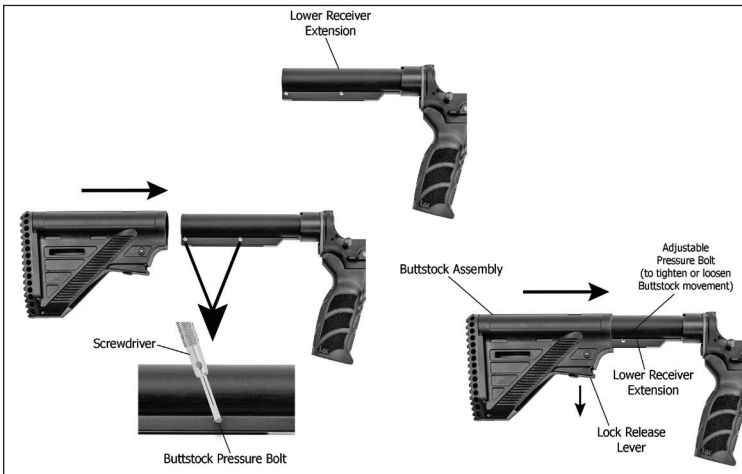

Fig. 28 – Buttstock reassembly
- a. Two small set screws are located on the bottom of the receiver extension (buffer tube). These set screws are provided to eliminate any play that may develop between the buttstock and the extension. The left-hand side of the set screw features a detent surface that engages the buttstock. The right-hand surface features a cut to accommodate a small straight slot screwdriver. Rotating the set screws clockwise will tighten the detents to the buttstock; rotating the setscrew counterclockwise will loosen the buttstock. Using a flat head screwdriver, rotate the set screws clockwise using quarter turns and adjust until the detents engage the buttstock but do not hinder removal or installation (Fig. 28)